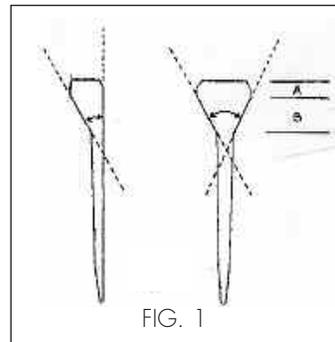
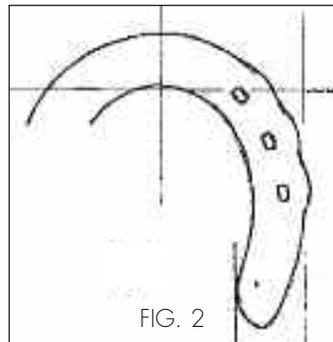

FIG. 1
FIG. 2
1. What size nail are you using? The common nail heads are city, regular or e-head (European). In Figure 1 the dotted lines show nail head angles; front and side. These angles are the same for all sizes of city head nails. Likewise, the angles of a regular head are the same for all sizes and the angles of the e-head are the same for all sizes. The length of the head, labeled B, is the variable for each size. The important thing to remember is your punch end must match the two angles of the nail you are punching for.
2. What size stock are you punching? The nail size used is directly related to the stock size. A 6 city or regular would not be used in 1/4 inch stock. You would be more likely to use a 4-1/2 city or 5 race. The most common stock size used in manufactured or hand-made shoes is 5/16 x 3/4. The most common nail would be the 5 City. I'll use these common sizes for this discussion. In Figure 1, area A is the portion of the nail that will be projecting above the ground surface of the shoe.
not remove material, it displaces it. This material must go somewhere, hence, "frog eyes." If every hole is punched exactly in the center of the stock there will be minimal distortion. However, most shoes are punched to the outside of center. The closer to the edge, the bigger the frog eye (Figure 2). The displacement always takes the path of least resistance. Figure 2 shows the toe nail, punched more to the center, has less distortion than the heel
Let me try to explain this. I'll refer to figure 1. When an attempt is made to forge the taper of the creaser, the result is a cup or pocket at the end of the piece. If the forging continues, it will result in a fold and a cold-shut or crack (figure 2) rendering the point useless. It is